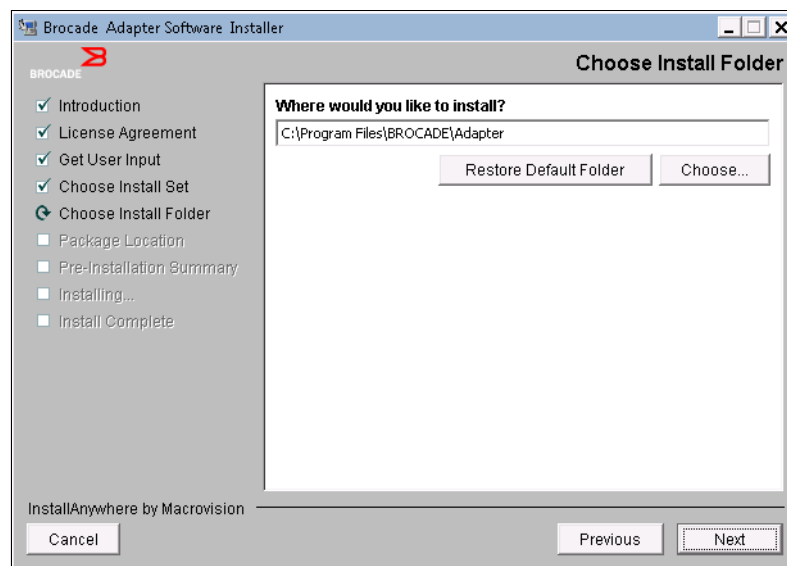

Figure 7-97 Choose Install Folder panel
5. In the Choose Install Folder panel (Figure 7-97), confirm the path to install the adapter, and then click **Next**.